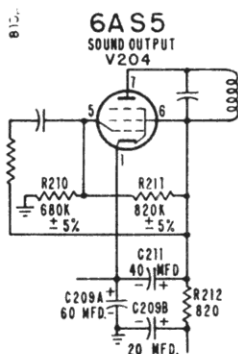

Figure 42. Early Filter Circuit.
**V204 filter network changed to decrease "hum".** In some early sets, the de-coupling filter network connected to the sound output tube (V204) plate supply was connected as shown in Figure 42 below. This network consisted of two sections (C209A and C209B) of a four section electrolytic and a single electrolytic (C211).